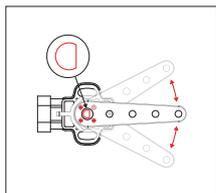
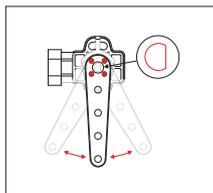
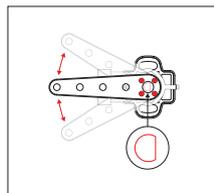

Abb. 20: Position A
Abb. 21: Position B
Abb. 22: Position C
2. The sensor can be mounted in any direction as long as, in the center position of the sensor arm, the flattened side of the sensor shaft faces the opposite side of the connector. The height sensors are shipped in position A (Fig. 20). Remove the sensor arm to rotate it to position B (Fig. 21) or C (Fig. 22). If possible, mount the sensor in position A or B so that the arm is opposite or rotated 90 degrees from the port. If this is not possible, make sure that the connection cable cannot come into contact with the sensor arm.